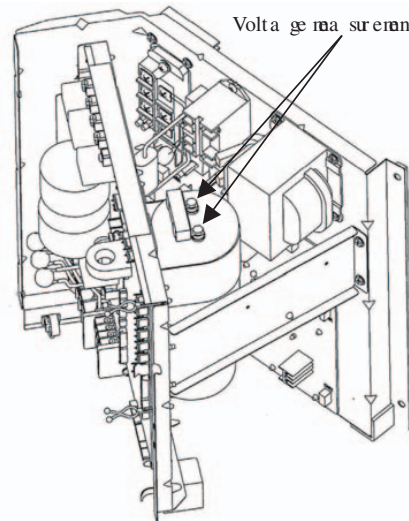

Fig.2 Position of capacitor
(Be sure to measure voltage (DC) on both capacitor terminals located in controller back, and check that the voltage is discharged sufficiently.(Refer to Fig.2))